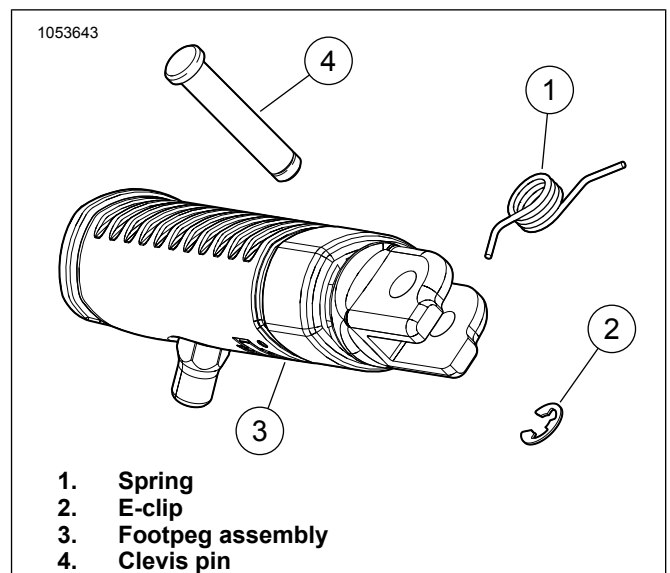

Figure 4. Rider Footpeg Torsion Spring Installation
4. See Figure 4. Insert short leg of spring (1) into hole in footpeg (3).